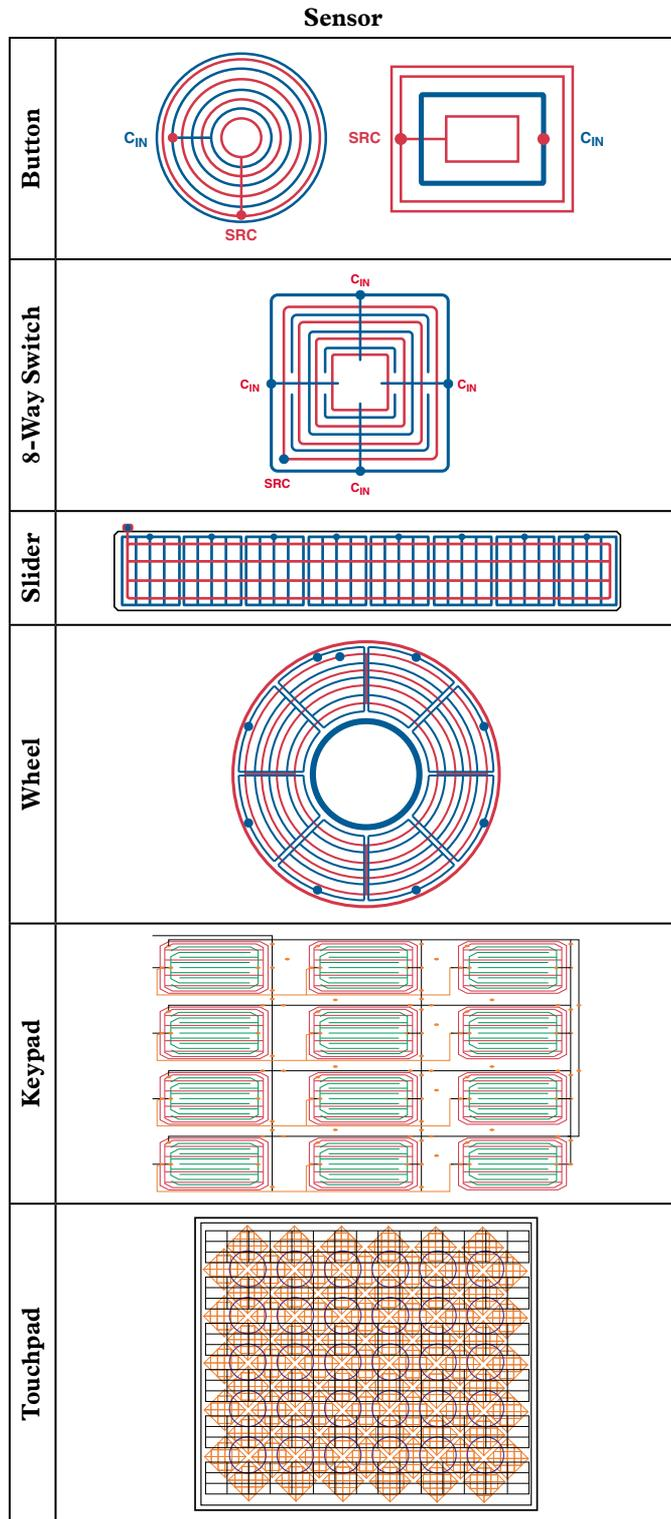

Figure 7. Selection of capacitance sensors.
**A:** As noted earlier, the sensor traces can be any number of different shapes and sizes. Buttons, wheels, scroll-bars, joypads, and touchpad shapes can be laid out as traces on the sensor PCB. Figure 7 shows a selection of capacitance sensor layouts.